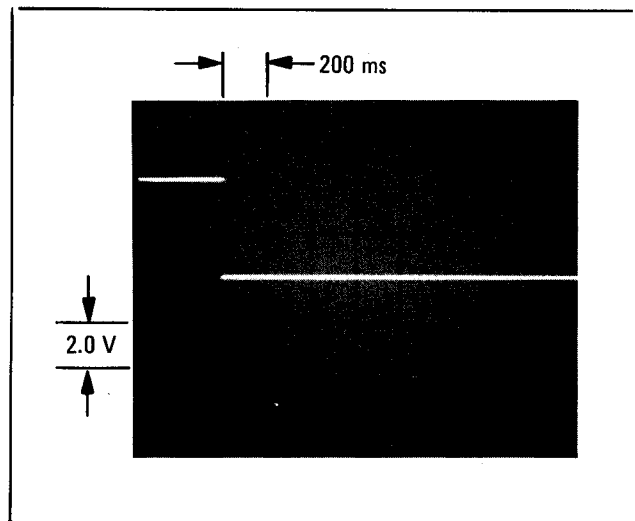

Figure 2. Display of High Slew Rate Pulse (coupling is dc to J2-Pin 7; external trigger is from U21B-Pin 9)
2. Increase the frequency in 10 MHz steps. Verify that the waveforms are the same as those of Figures 2, 3 and 4. The loop is being phase locked.